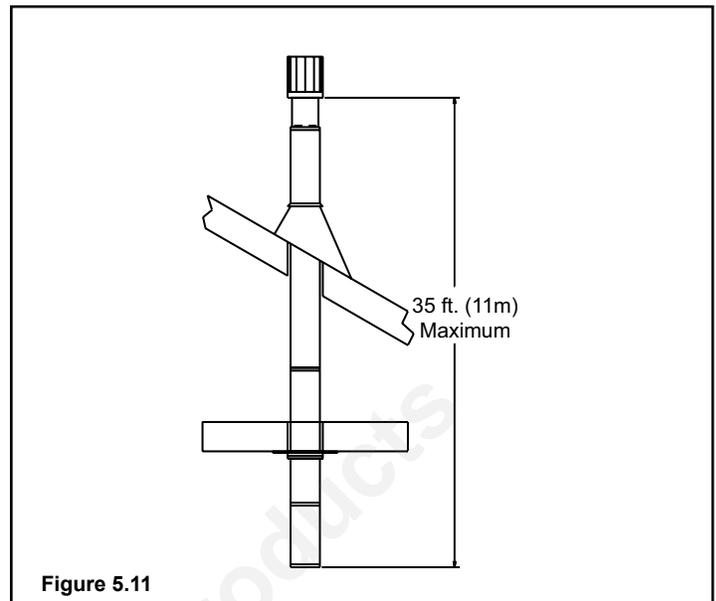

Figure 5.11
**NOTE:** Maximum vertical rise allowable is 35 ft. (11m) **Figure 5.11**).